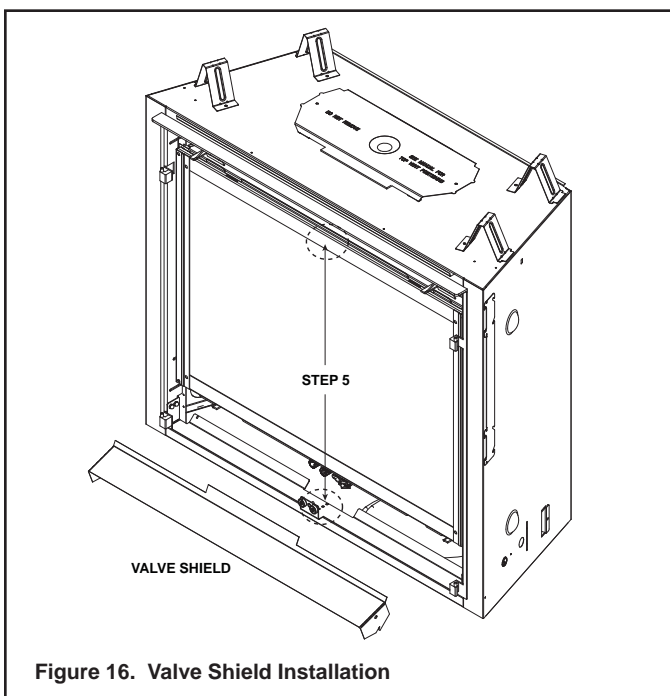

Figure 16. Valve Shield Installation
- Once the doors have been secured and leveled. Self drilling screws, supplied, can be used to secure center of hood and bottom frame components. Install screws through clearance holes in the bottom frame and hood components and into the fireplace surround. Be sure not to hit finishing material with screws. See Figure 16.